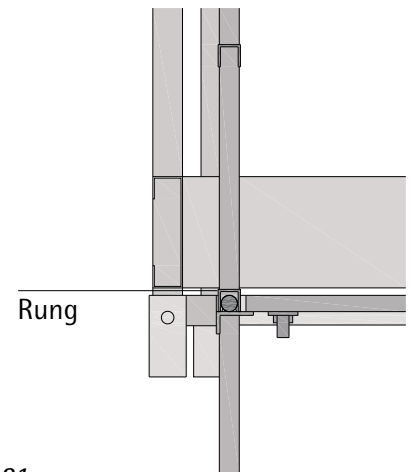

Fig. 21
2. While hatch is open attach the ladder with one rung on the back edge of the working platform (Fig. 21).